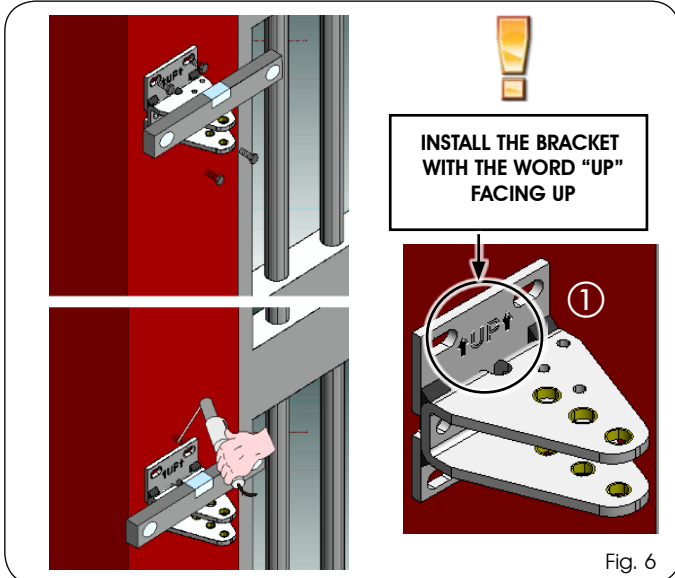

Fig. 6
1. Check the perfect level then weld the rear fitting to the pillar or fix it by means of suitable screws, dowels / threaded inserts. Observe the dimensions stated in Tab.1 (**never cut the rear fitting; moreover it must be installed with the word "UP" facing up as shown in figure 6 re. ①**).